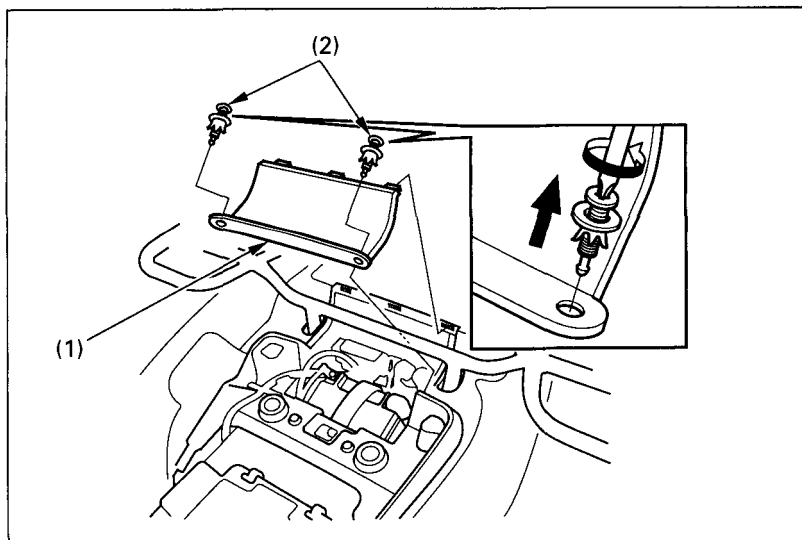

Fig.4-19
3. To remove the rear fender lid (1), remove the clips (2) (Fig. 4-19).